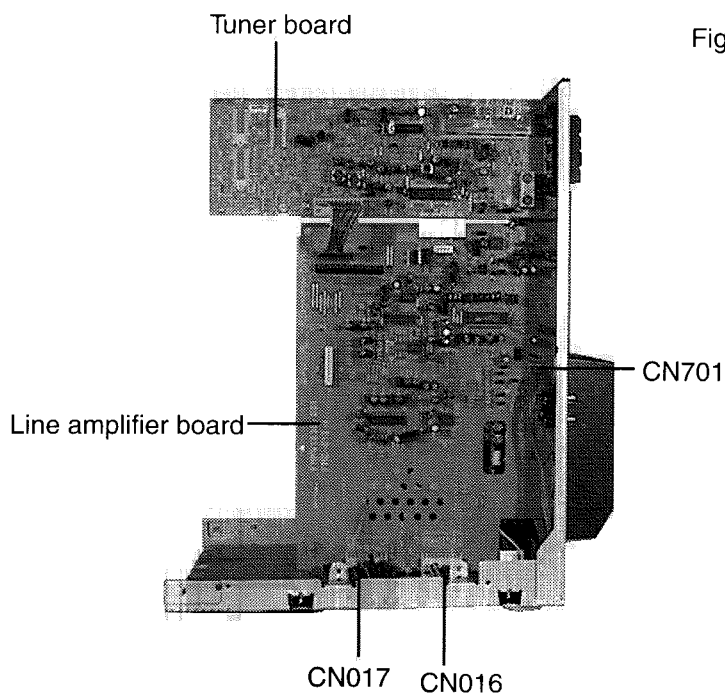

Fig. 12
6. Disconnect the 3 pin connector wire connected to power amplifier board from connector CN701 on the line amplifier board. (See Fig. 12)
7. Disconnect the two connectors connected to the power supply board from connectors CN016 and CN017 on the line amplifier board. (See Fig. 12)